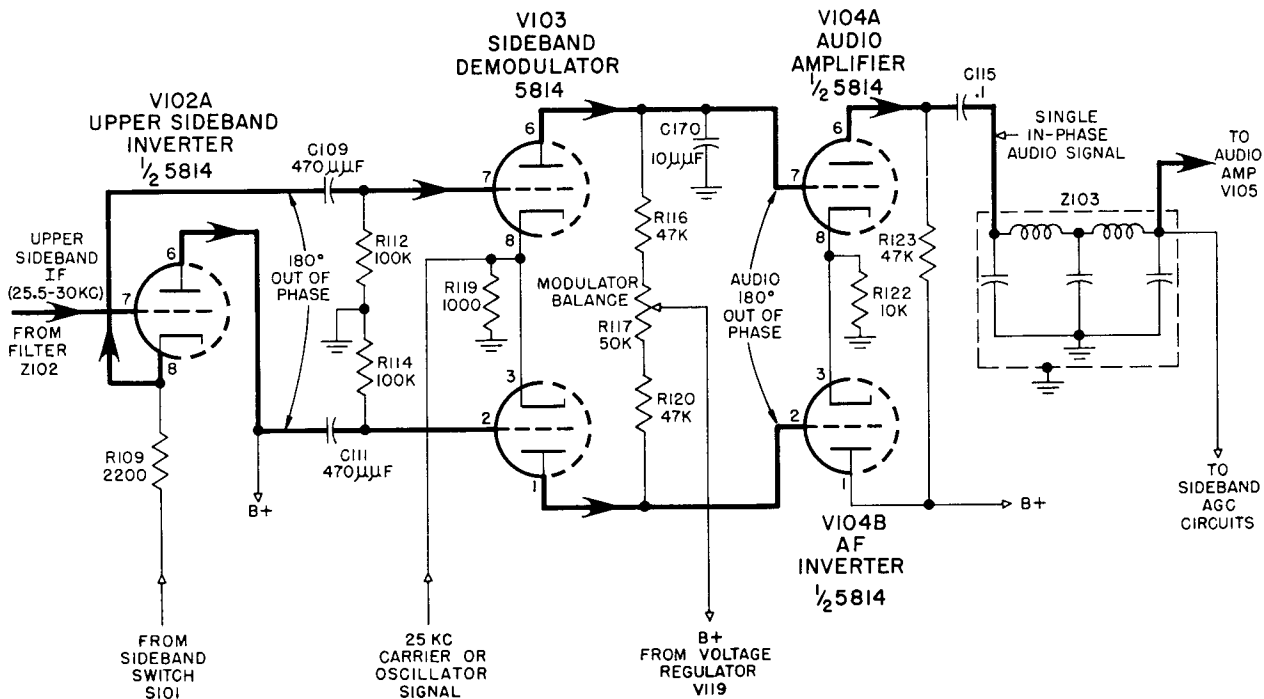

Figure 2-4. Sideband Demodulation Circuits, Simplified Schematic Diagram
b. SIDEBAND DEMODULATION CIRCUITS. (See Figures 2-4 and 7-7.)—The stages including V102, V103, V104 and Z103 comprise the sideband demodulation section. These circuits function as a group to mix one of the sidebands with a 25-kilocycle signal to produce audio. The mixing of the sideband IF signal with the 25-kilocycle local oscillator signal or the carrier signal takes place in sideband demodula-